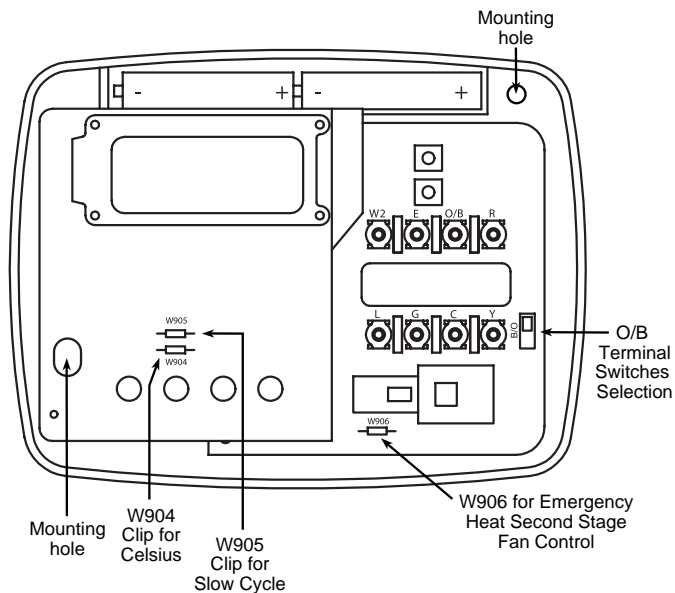

Figure 1. Thermostat base
If your emergency or auxiliary system will energize the blower, then jumper W906 on the thermostat base must be cut (see fig. 1).
5. Fasten base loosely to wall, as shown in fig. 1, using two mounting screws. Place a level against bottom of base, adjust until level, and then tighten screws. (Leveling is for appearance only and will not affect thermostat operation.) If you are using existing mounting holes, or if holes drilled are too large and do not allow you to tighten base snugly, use plastic screw anchors to secure subbase.
This thermostat does not require batteries to operate. The 2 "AAA" alkaline batteries are for the thermostat to remember the configuration menu selections if AC voltage is lost. If the display shows **BATT** when AC power is not present, the batteries are low and should be replaced with fresh "AAA" Energizer® alkaline batteries. To replace the batteries, install the batteries along the top of the base (see fig. 1). The batteries must be installed with the positive (+) ends to the right.